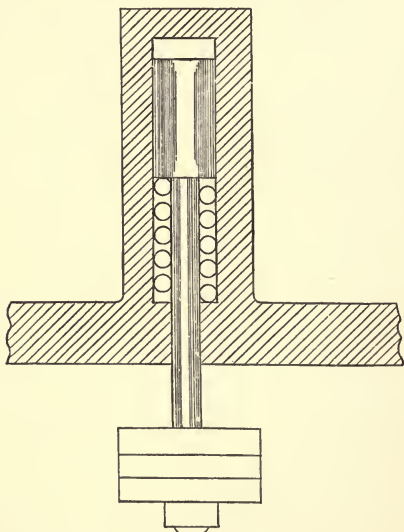

Fig. 2.
2. The loaded piston shewn in fig. 2 is held in position in a vertical cylinder by a spring whose strength is such that a 100 lbs. pull compresses it a distance of 1 inch. The weight of the piston and load is 150 lbs. and the friction of the piston in the cylinder is such that it takes a pull of 40 lbs. to move the piston. If the piston is depressed until the compression of the spring is 3 inches and is then released, calculate how far the piston will rise and where it will eventually come to rest.